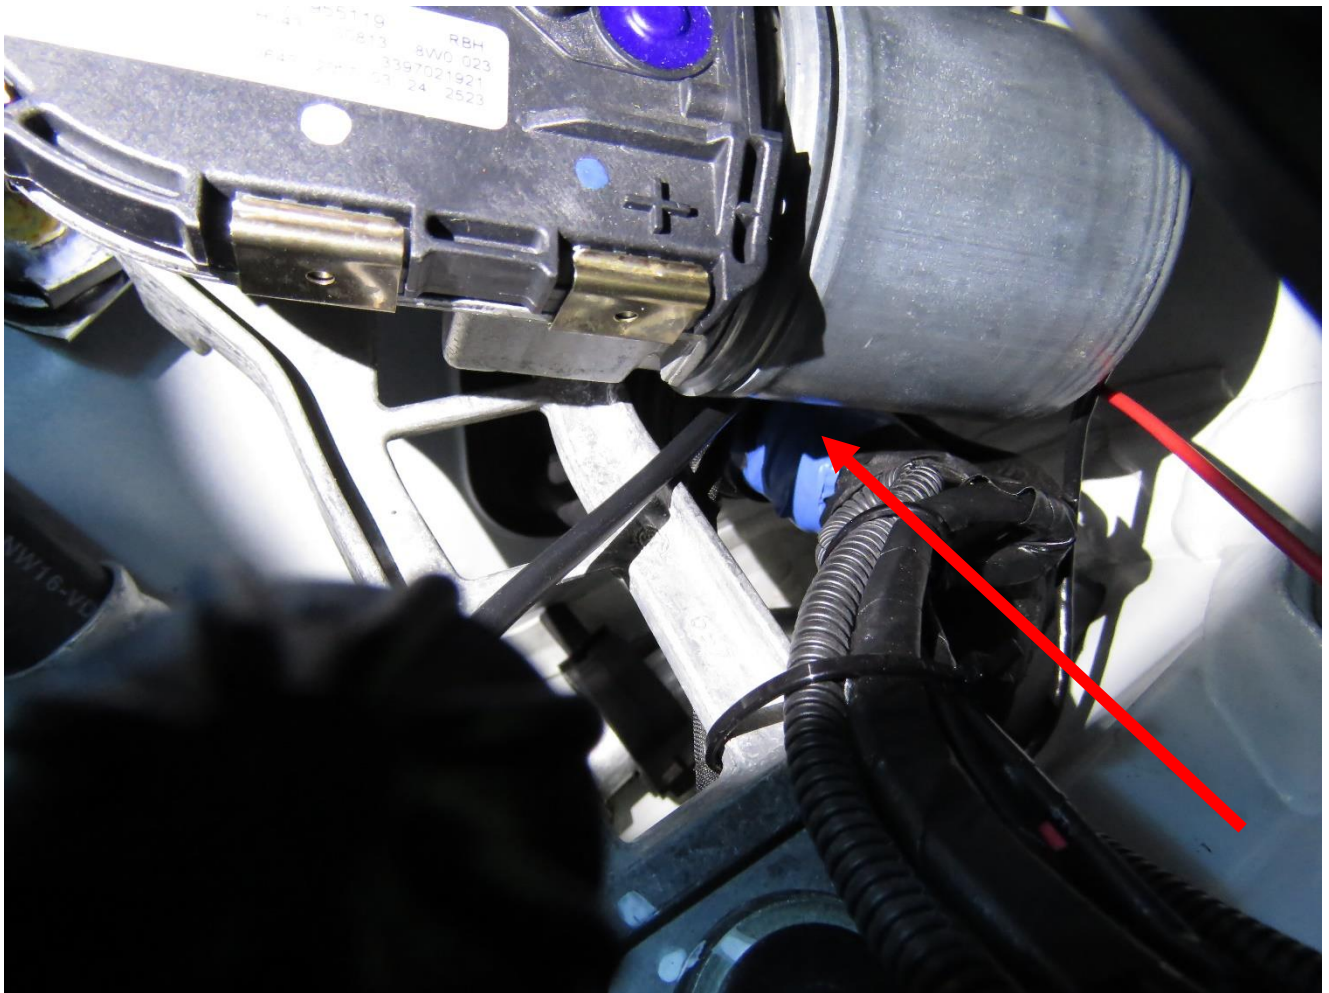

Figure 13
- 8) Extend the positive (+) wire to the inside through the fire wall compartment at the side of wiper motor near the bundle of wirings as shown in Figure 13.